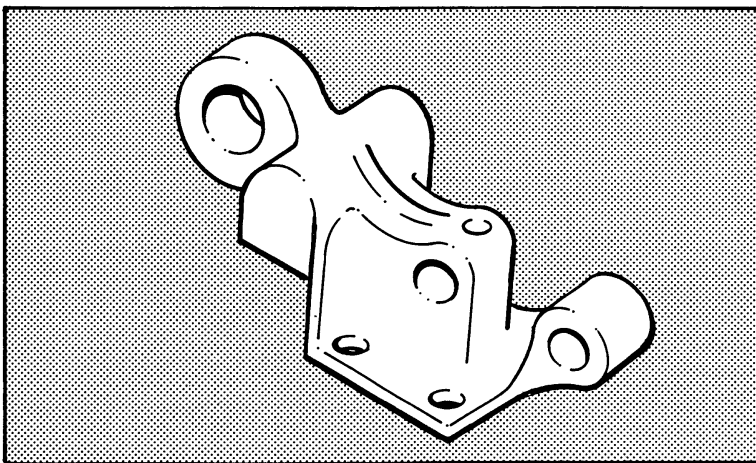
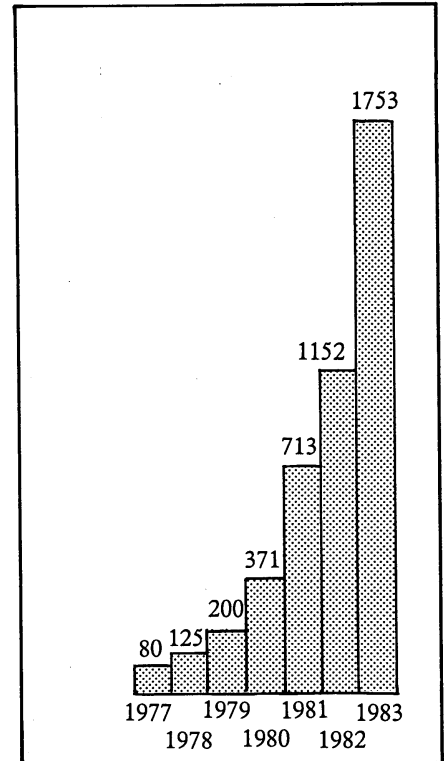
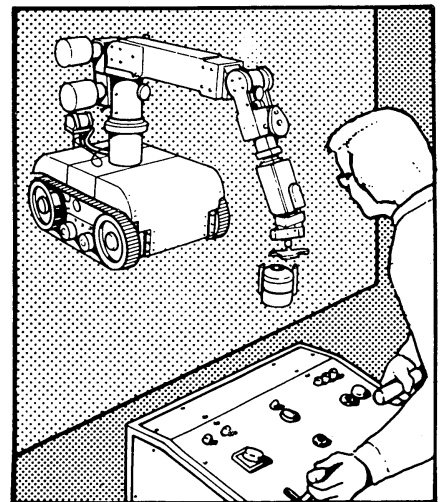
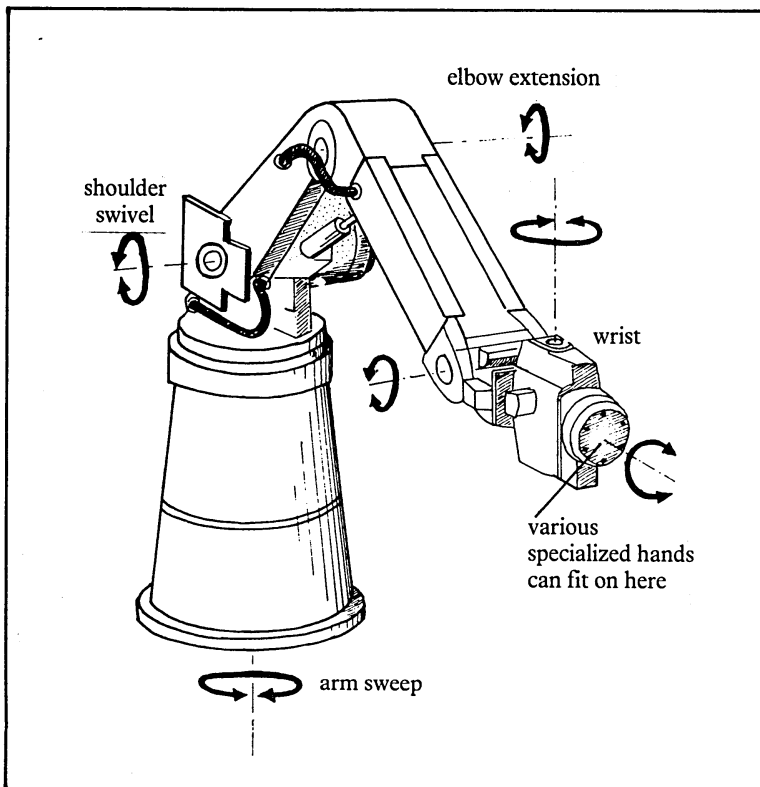

Figure 3 A spindle cast from molten steel
Figure 1 Growth in the robot population of Britain from 1977 to 1983
Figure 2 One of the earliest uses of industrial robots was for handling dangerous radioactive materials
Figure 4 A typical industrial robot
Acknowledgements Figure 1: data from the British Robot Association; Figure 2 is reproduced by permission of *Understanding Electricity* (The Electricity Council); Figure 3 is adapted from *A Human Guide to Robots* (Department of Trade and Industry); Figure 4 is reproduced by permission from *Technology Made Simple* by Don McCloy (Heinemann); Figure 5 is reproduced by permission of Unimation (Europe) Ltd; Figure 7 is reproduced by permission of GEC Electrical Projects; Figure 8 supplied by Cincinnati Milacron (UK).
The word 'robot' may make you think of space-age fantasies like R2 D2, or of Frankenstein's monster. Yet there are hundreds of robots in Britain, and the robot population is growing (Figure 1). The robots we will be looking at in this unit are very down-to-earth, hard working machines called **industrial robots**.
Take one small example. Part of the wheel bearing is a complicated metal spindle which is cast from molten steel (Figure 3).
Industrial robots do not look much like the ones you see in space fantasies. They usually have no head, only one arm and are fixed to the floor. Figure 4 on the next page shows a typical example.